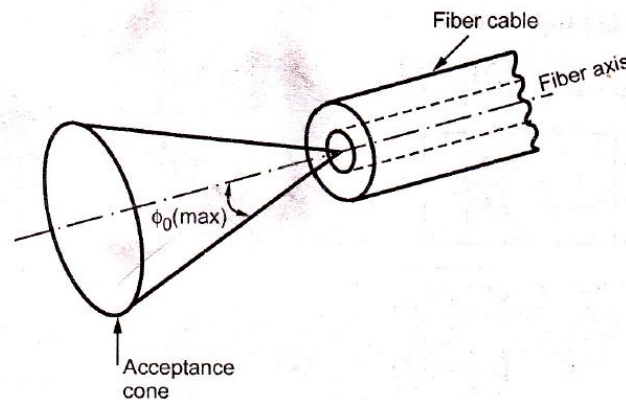

Fig. 1.6.10 Acceptance cone of a fiber cable
- Rotating the acceptance angle  $\phi_{0(\max)}$  around the fiber axis, a cone shaped pattern is obtained, it is called as **acceptance cone** of the fiber input. Fig 1.6.10 shows formation of acceptance cone of a fiber cable.